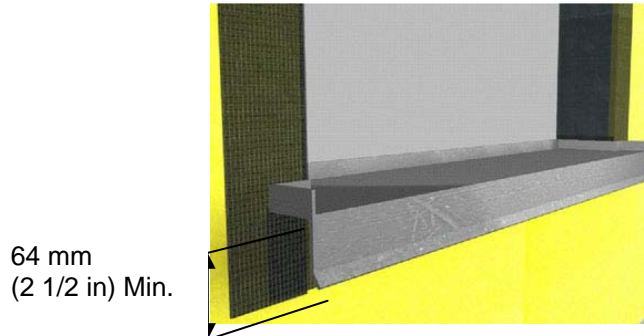

Figure 6
- a. Install a watertight pan flashing at all sill locations - Figure 6.
- c. The flashing shall extend a minimum of 64 mm (2 1/2 in) down over the face of the Outsulation RMD System - Figure 6.